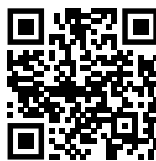

Fig. 142
- Open [Liebherr SmartMonitoring Dashboard](https://smartmonitoring.liebherr.com). (see Fig. 142)